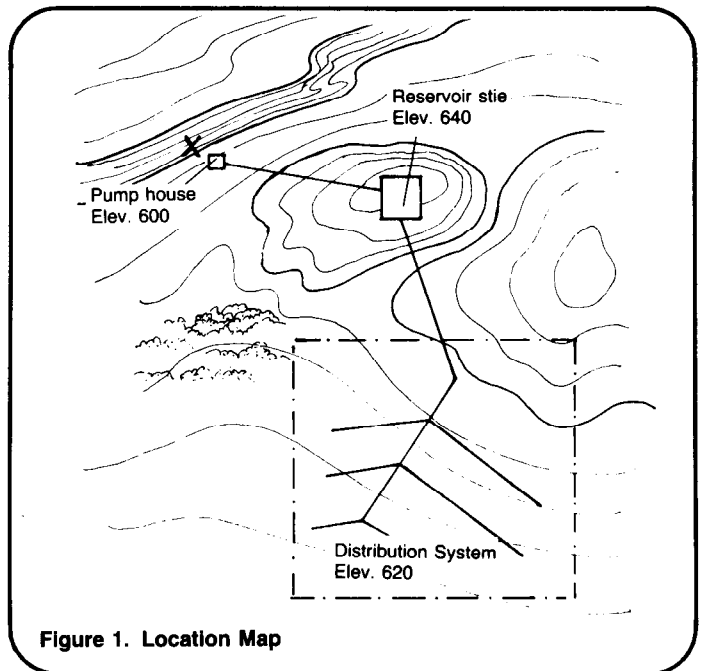

Figure 1. Location Map
1. A map of the area including the location of the reservoir, the distribution system, location of users, houses and elevations. Figure 1 is an example of a map showing these reference points.